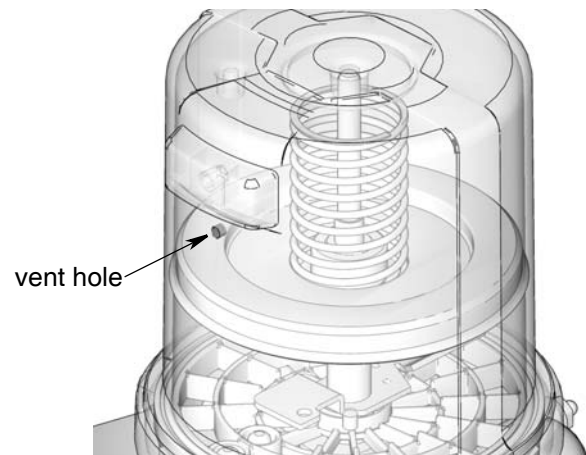

FIG. 18
3. Fill reservoir with grease until seal of follower plate breaches the vent hole (FIG. 18) and the majority of air is expelled from the reservoir.